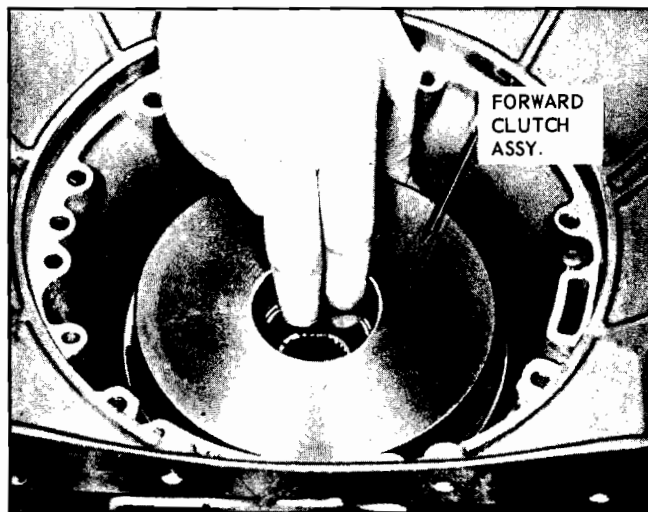

Fig. 7F-105 Installing Forward Clutch
2. Install input shaft into oil pump (Fig. 7F-107) and install oil pump (less oil seal rings, but with old or .061" thrust washer) into case.